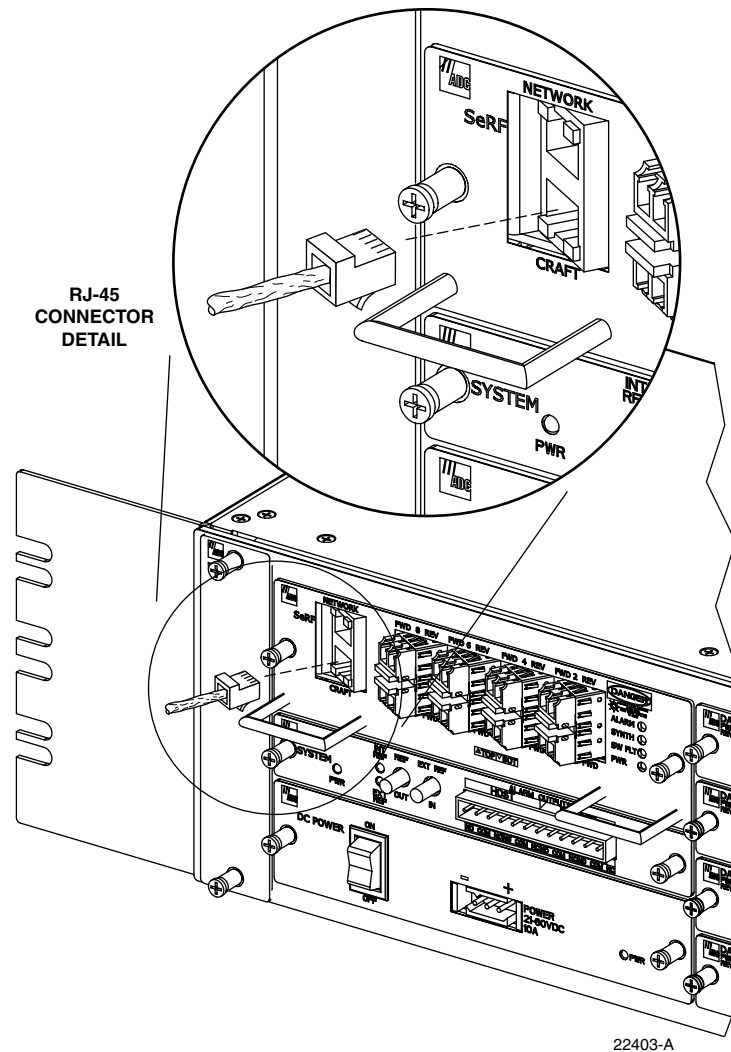

Figure 17. Craft Interface and Network Interface Connections
1. Connect one end of the service interface cable (accessory) to the CRAFT port as shown in Figure 17.
1. Connect one end of the cable (accessory) to the NETWORK port as shown in Figure 17.